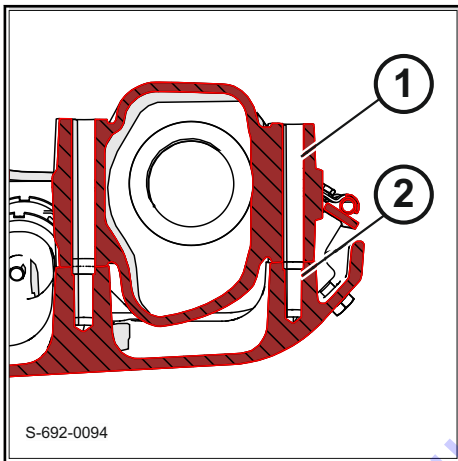

Fig. 84
2. Place the exciter shaft housing on the base plate and align the bore (1) ↪ Fig. 84 for fastening screws with the threaded bores (2).